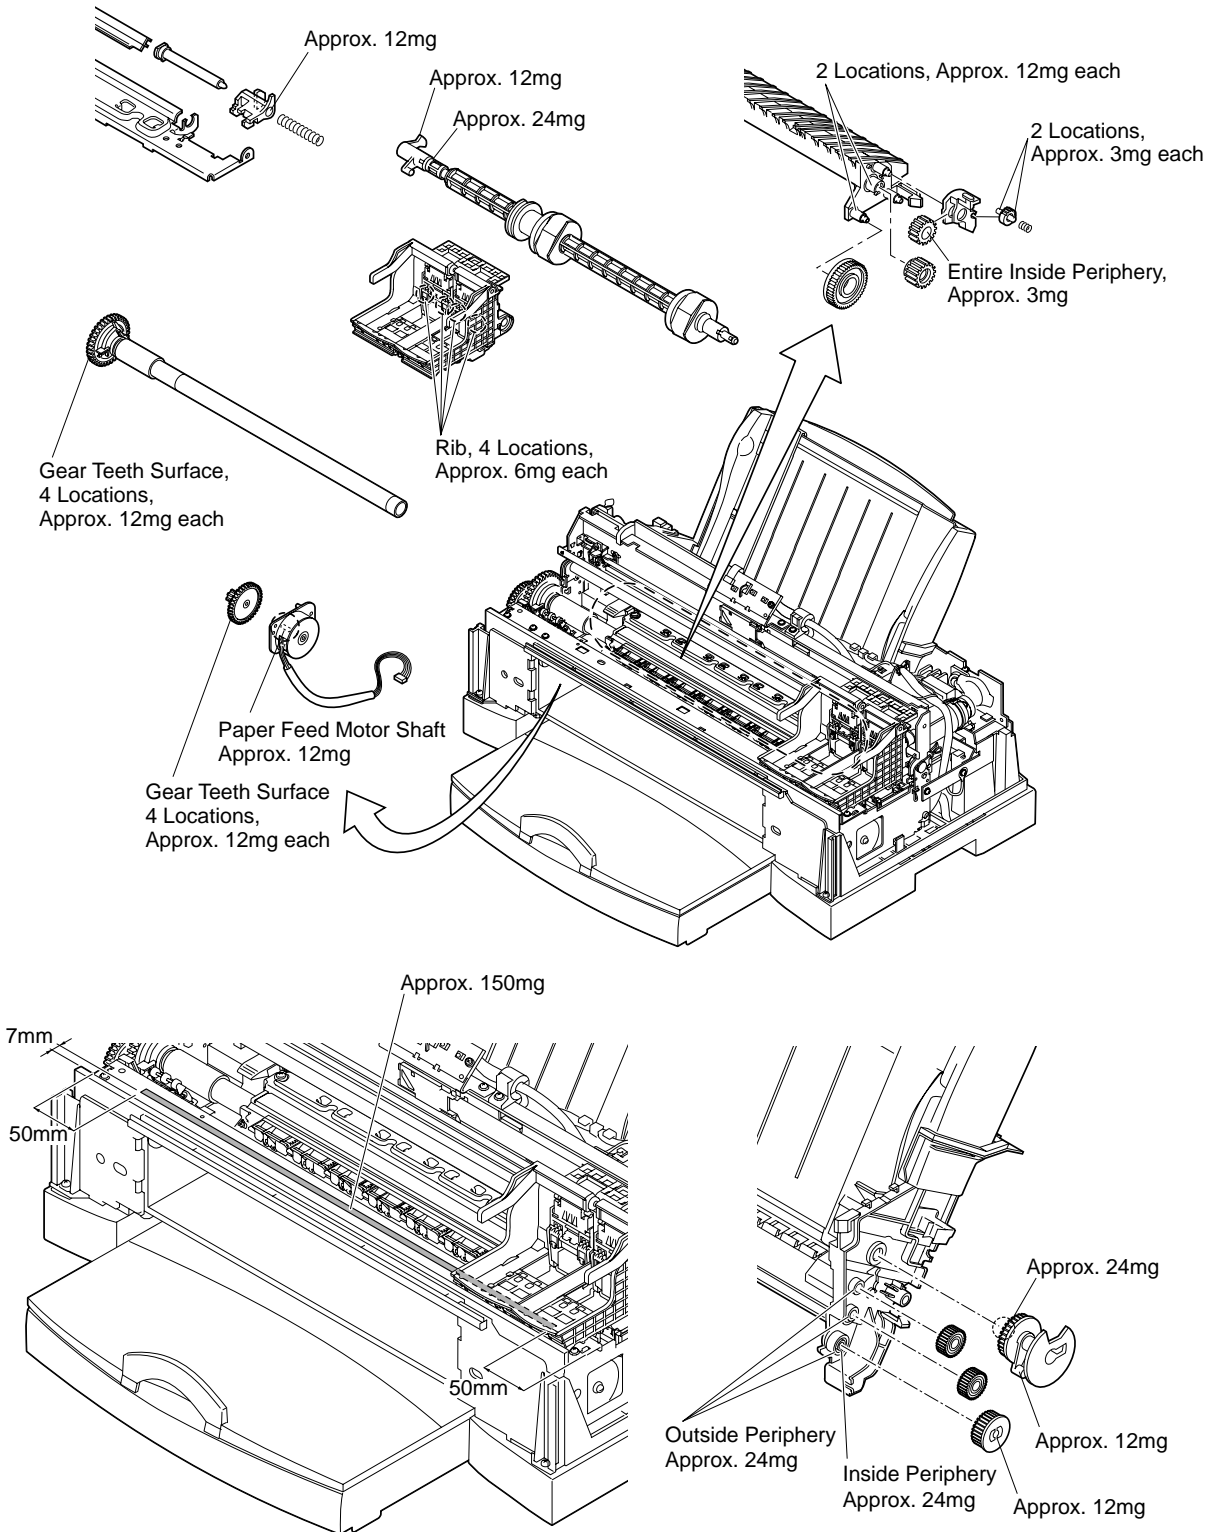
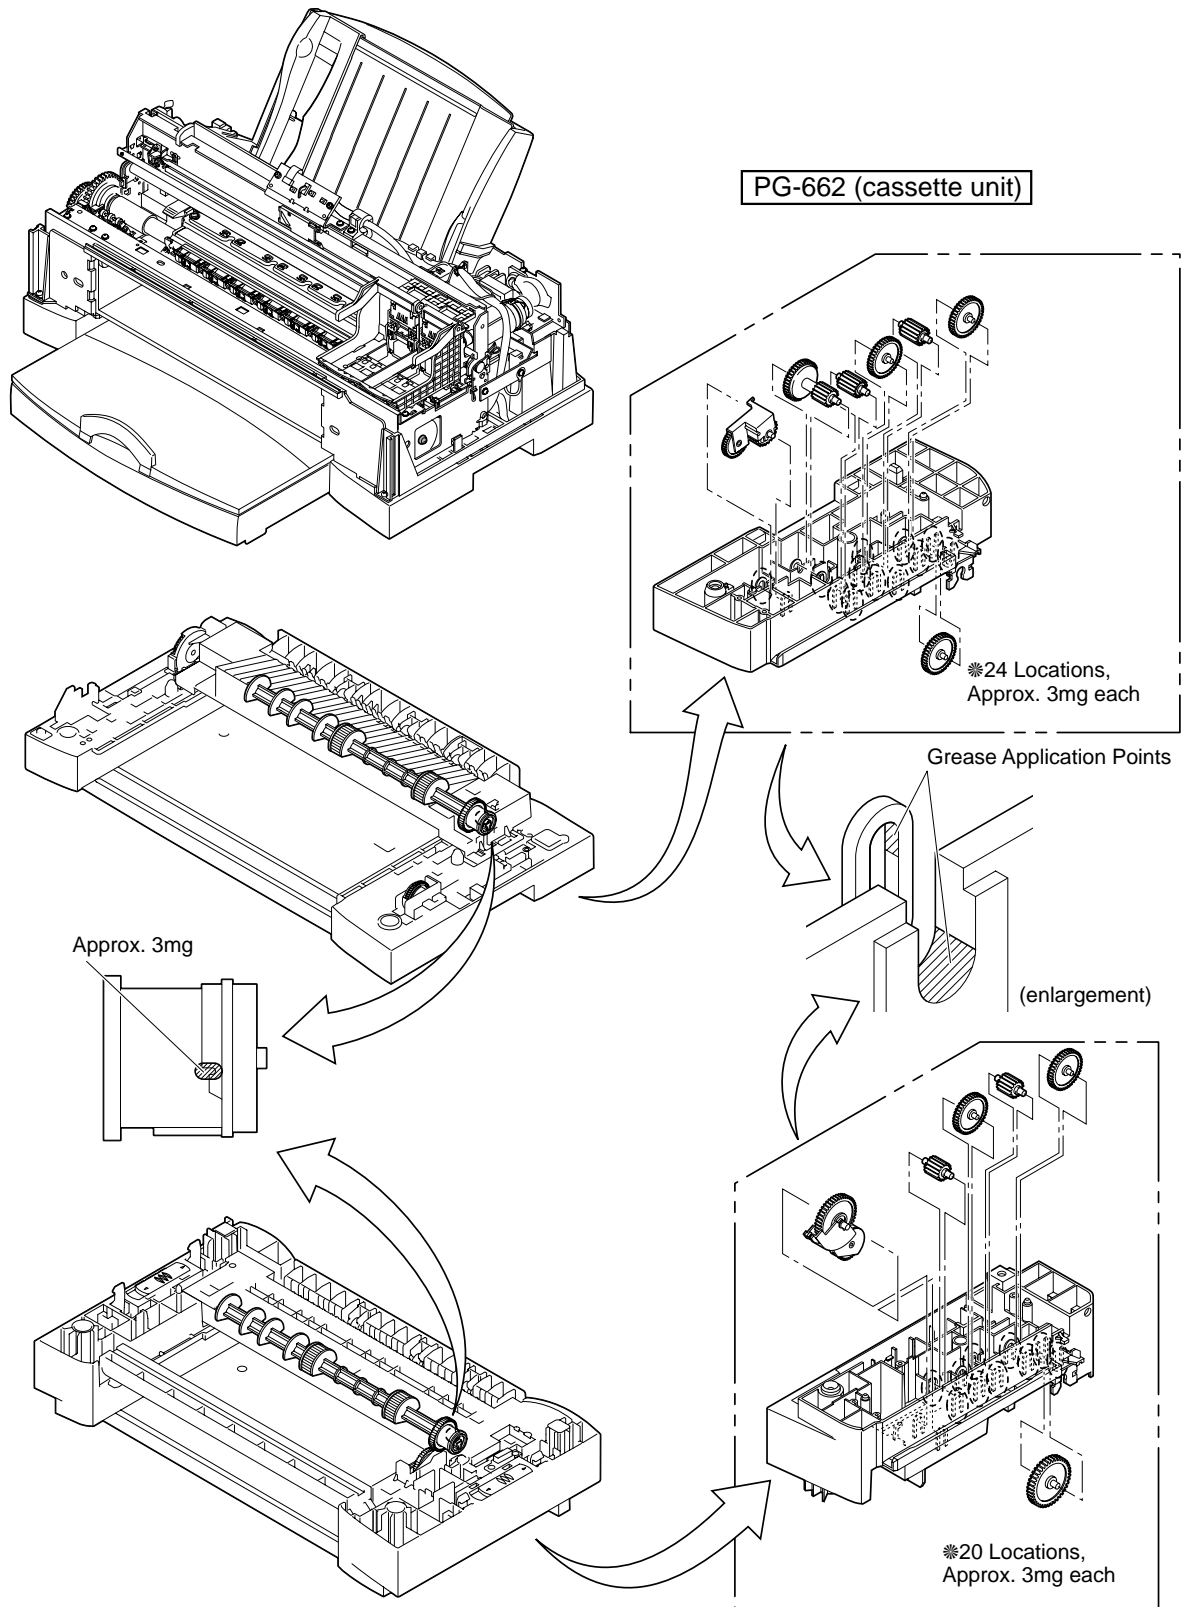

Figure 5-2 Grease Application Sections (2)
Figure 5-3 Grease Application Sections (3)
| Grease (MOLYKOTE PG-662) (QY9-0034-000) | For application to specified locations (see Figure 5-2 Grease Application Sections (2) (page 5-4) , Figure 5-3 Grease Application Sections (3) (page 5-5) .) |